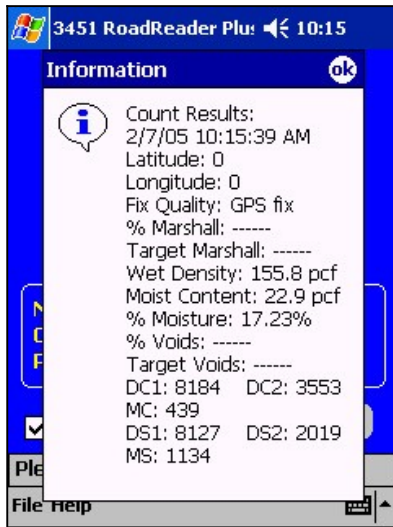

Figure 4–9. Count Results, Asphalt Mode
- ▶ To add project notes, press **⟨Yes⟩**. The PDA displays a **Project Notes** screen similar to the one shown in Figure 4–7 on page 4–12. Enter the desired notes and press **⟨Ok⟩**. Troxler recommends that the information entered as project notes does not exceed 40 characters.
- ✓ The PDA displays the measurement results as shown in Figure 4–9. Note that: